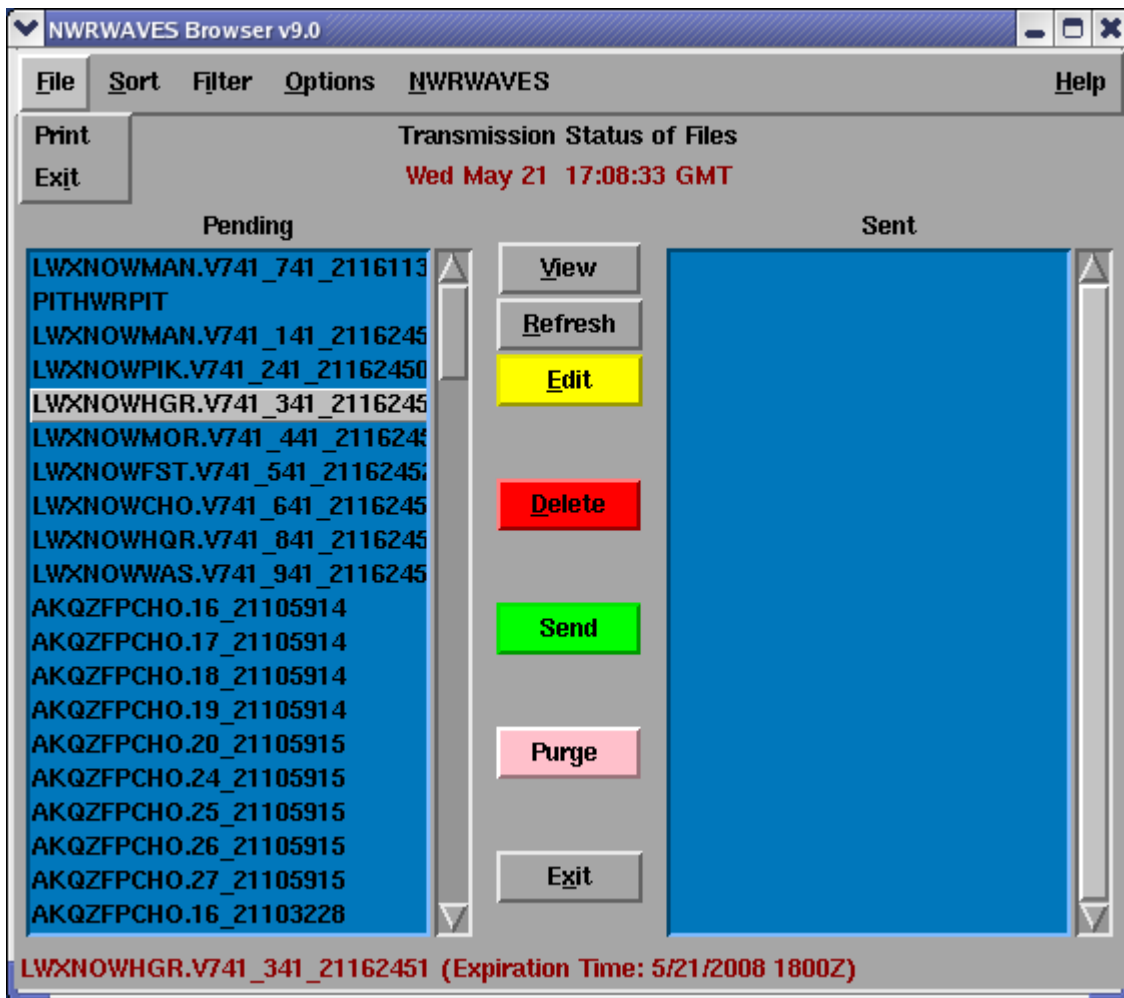

Figure 9 – NWRWAVES Browser (front-end application to NWRWAVES)
- a. **Print** – Print highlighted items from Pending/Sent lists (see Figure 9)